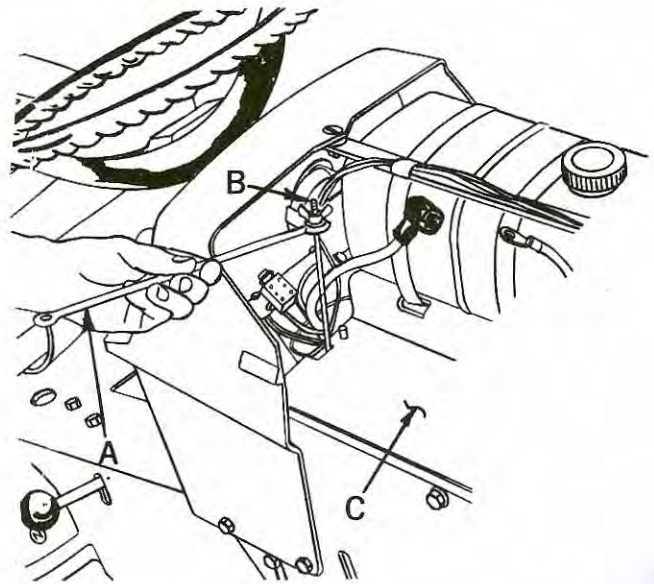
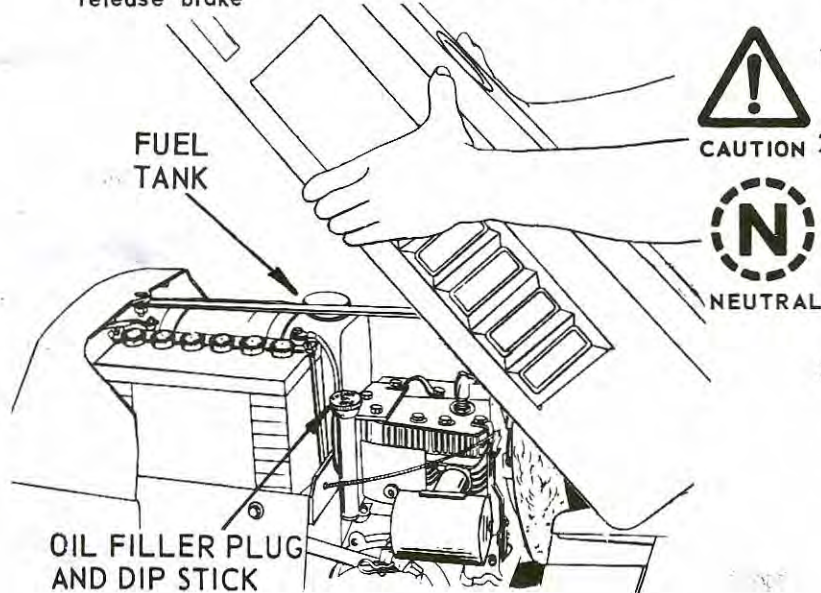

FIG. 3
FIG. 8
2. Lift cowl, refer to Fig. 8. Assemble clamp (A), to one of two battery bolts (B). Flat washer and wing nut above clamp as shown in Fig. 3. Hook the bolt into rear of battery support (C), and turn clamp to the side as shown to allow positioning of battery. Bolt, clamp, washer and wing nut shipped in plastic bag located beneath cowl. Battery installation continued on page 6.
Steps 5, 6 and 7 refer to Fig. 8.